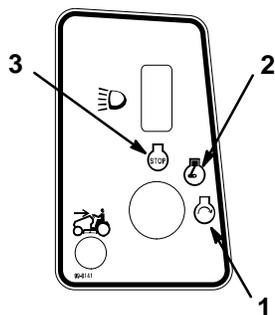

Figure 9
5. Turn the ignition key clockwise and hold it in the “START” position (Fig. 9). When the engine starts, release the key.
- Turn the ignition key to "OFF" (Fig. 9).